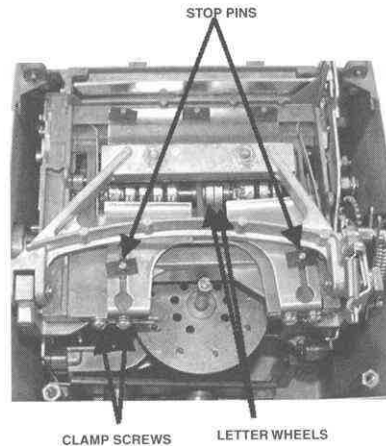

FIGURE 2
1. With the top plate removed, the "letter" wheels are visible (see Figure 2).